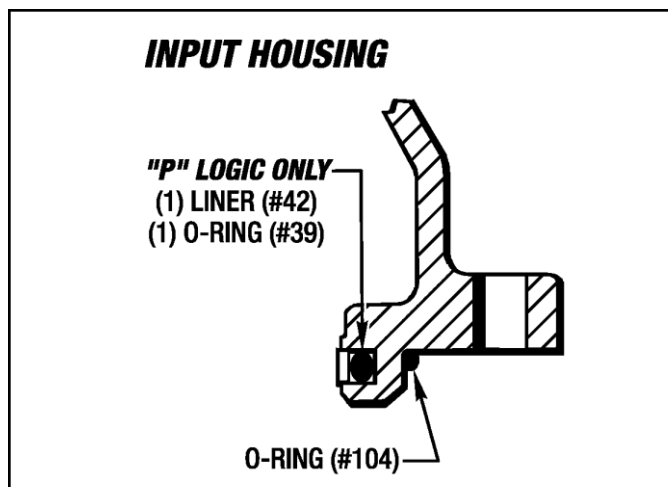

Figure 9.11 - Installing Input Housing
2. Lubricate the O-Ring (#104) with a little White Grease and install it on the mounting register as shown in Figure 9.11.
4. Lubricate the O-Ring (#39) and the Liner (#42) with a little White Grease and install them into the piston seal groove in the Input Housing (#8) as shown in Figure 9.11 above.
7. Attach the Input Housing (#8) to the Output Housing (#9) with (4) Screws (#63) and (4) Lockwashers (#127).